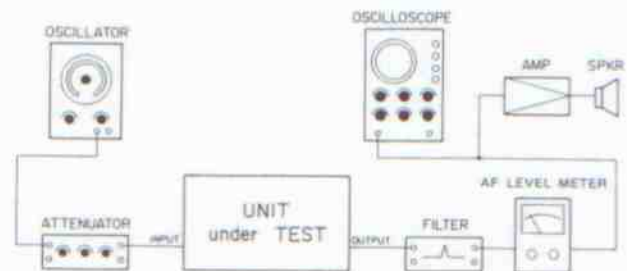

Fig. 7-6-12. Erase Ratio Test Set-Up
1. Connect test equipment to the tape deck as shown in Fig. 7-6-12.